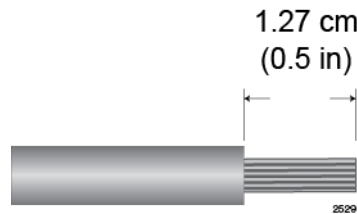

Figure 130. Stripping the Stranded Grounding Wire
1. Prepare an adequate length of stranded 10 AWG grounding wire by stripping it as shown in Figure 130.